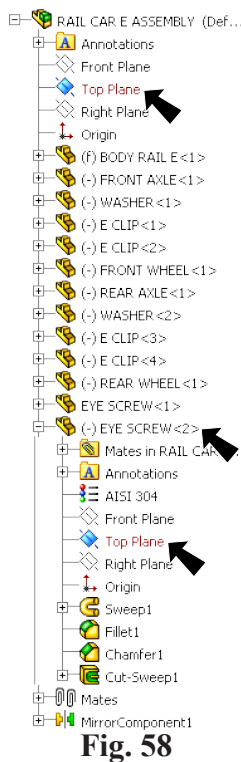

Fig. 58
Step 18. Expand the (+) in the top left corner of the drawing area, **Fig. 58**.
Step 19. Click **Top Plane**  in the Design Tree, **Fig. 58**.
Step 20. Expand **EYE SCREW2** and click **Top Plane** , **Fig. 58**.